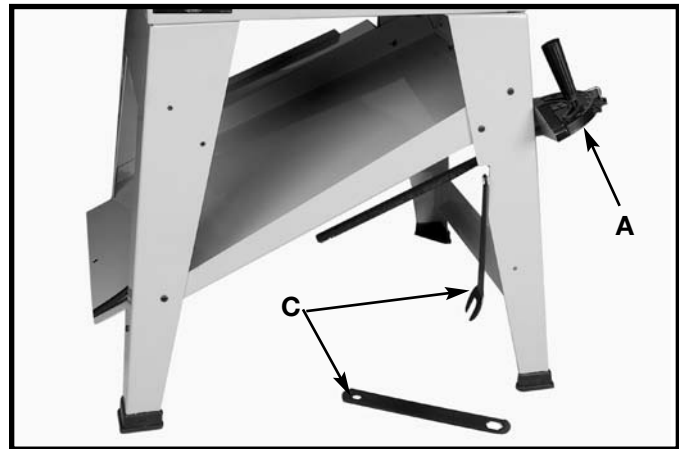

Fig. 79
1. When not in use, the miter gage (A) Fig. 79 can be stored through the hole located at the front side of the stand.
2. Arbor wrenches (C) Fig. 79, can be stored on one of the two notched legs.